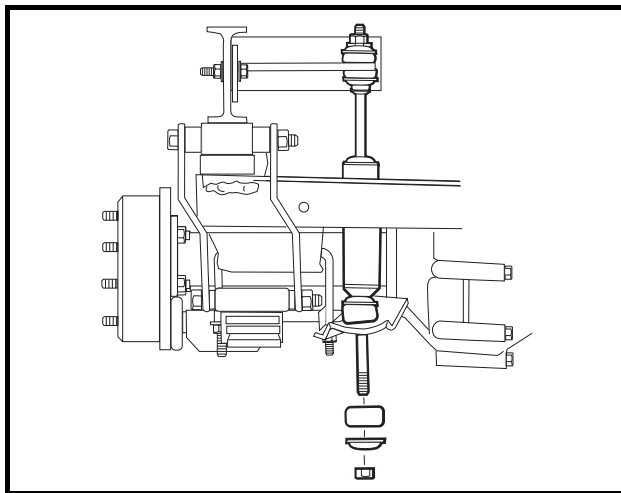

Figure 23-8 Disconnect Shocks
- Disconnect the shock absorbers from their lower mounts (**Figure 23-8, Page 23-5**).